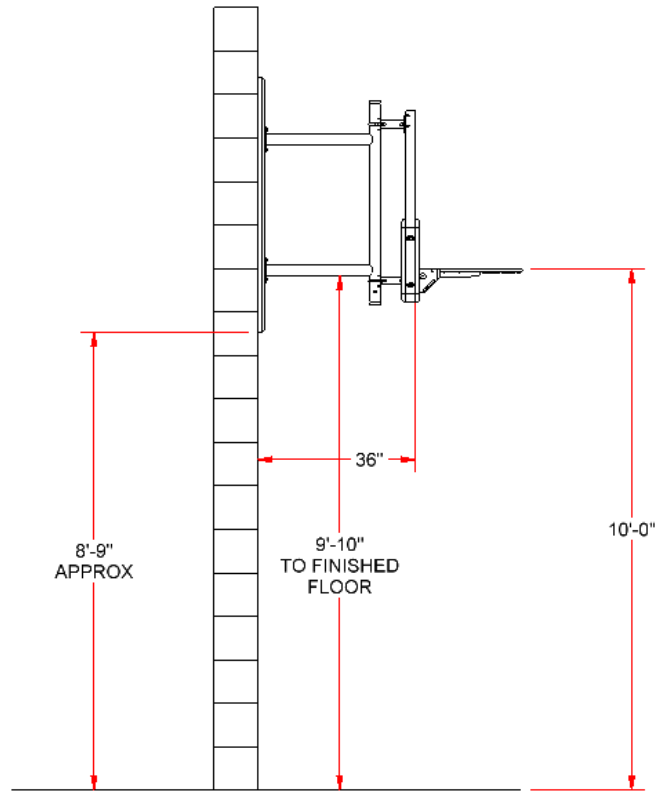
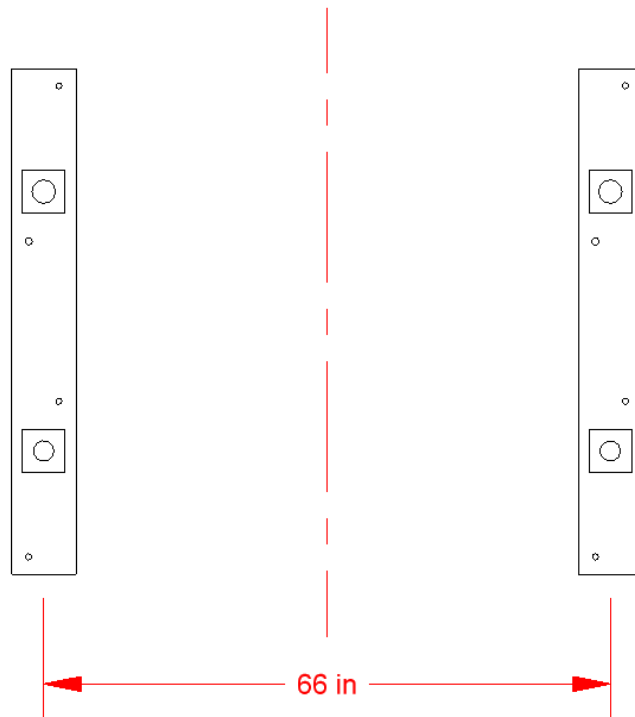

FIGURE 1
FIGURE 2
- d. Determine the exact location for your backstop. Avoid obstructions such as windows, exposed columns, conduit, etc. on or in the wall in the area where the backstop is to be located. An area 8' wide, from 8'-9" to approximately 14' from the floor is required for installations. See **FIGURE 1** below.
- d. Stagger the anchors from side to side leaving 2" of wood outside each anchor and ultimately using 4 anchors for the plank. See **FIGURE 2**
- a. Now you are ready to transfer this layout to the wall for drilling. Determine the centerline of the unit on the wall where you are locating the unit. The width of the wood planks is 66 inches center to center. (See **FIGURE 2**) The bottom of the steel frame attachment should be located 9'-10" off the finished floor (See **FIGURE 1**), this will dictate the location of your bottom hole. Relate this point to your anchor pattern. Mark a centerline of the plank starting at your bottom anchor location and extending to the top anchor location. Mark the actual hole locations to each side of the center as they are located on the plank. Try to avoid mortar joints they often contain wire mesh and are weaker than the surrounding block. The planks may be shifted up or down slightly to avoid the mortar joints. Avoid attachment in the top 2 to 3 rows of block, this will cause the blocks to break away.